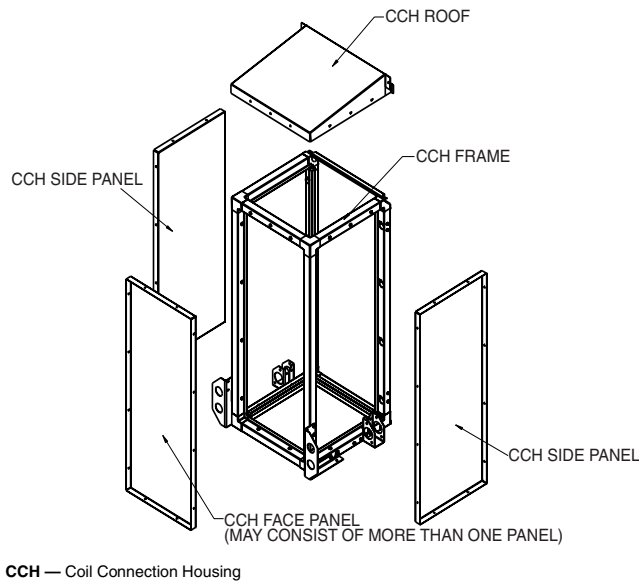

Fig. 39 — Reposition to Upright and Remove Panels
2. Before removing the coil connection housing from its skid, reposition shipping brackets/lifting lugs as shown in Fig. 39 and fill empty holes with screws.
3. After the coil connection housing has been repositioned to its upright position, remove the roof and panels as shown in Fig. 39.